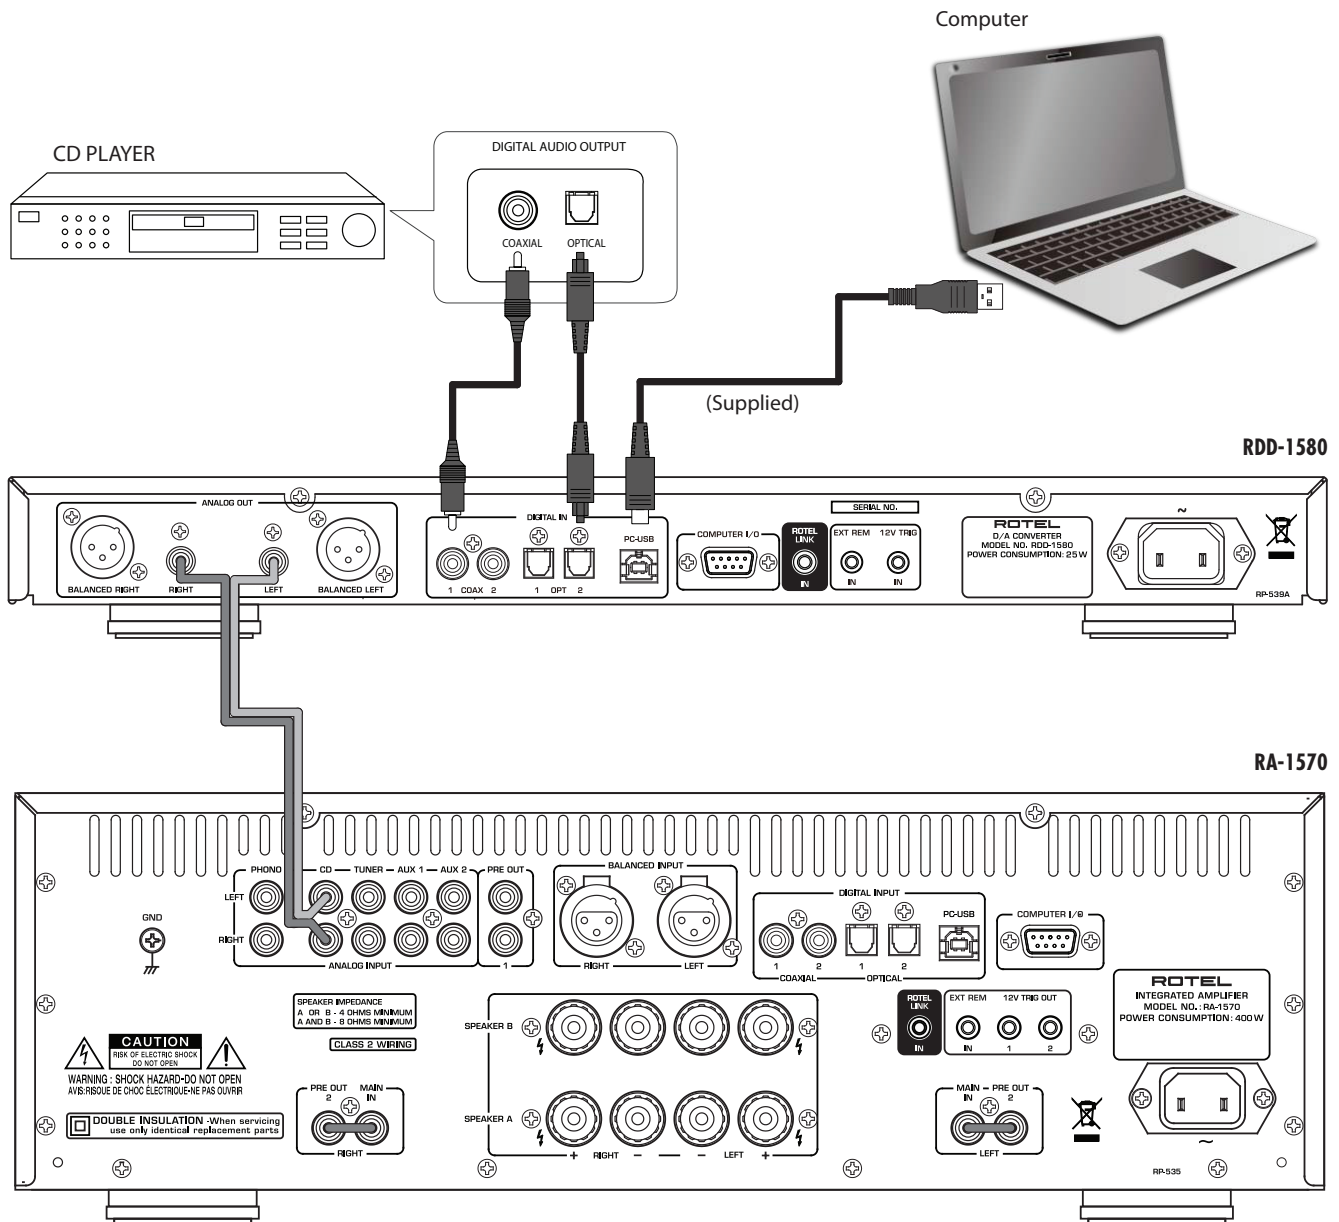

Figure 4: Balanced (XLR) Outputs and 12V Trigger IN Connections
- Figure 4: Balanced (XLR) Outputs and 12V Trigger IN Connections 5